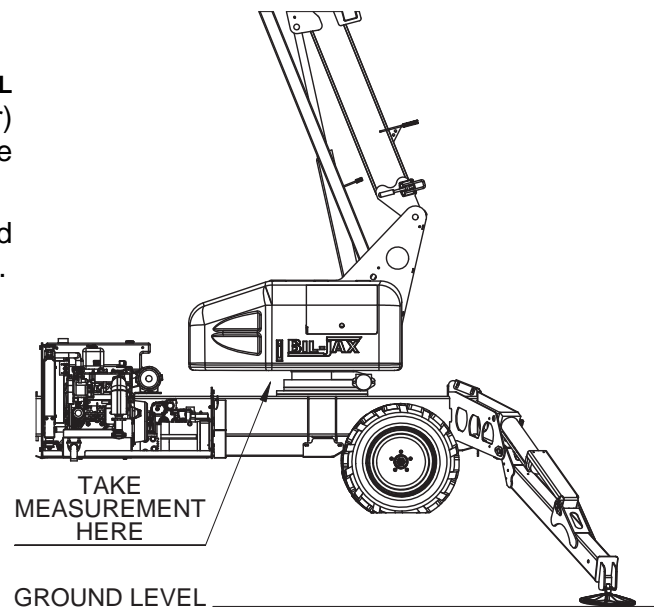

Figure 4-6. Machine Position for Slew Ring Measurement
- Place a 175 lb (79 kg) load in the platform and raise the **PRIMARY** boom to the full out position. Refer to Figure 4-6.